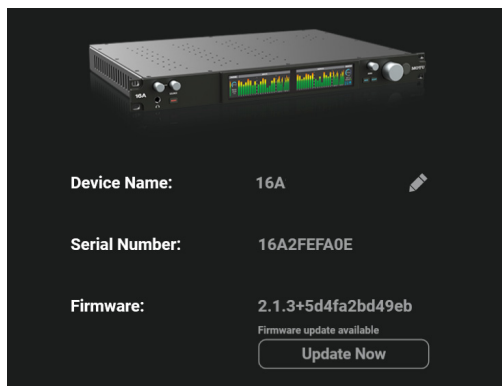

Figure 6-9: Go to the Device tab to see if there is a firmware update available.
- 2 Go to the Device tab and look at the *Firmware* setting (Figure 6-9).
- 3 If your computer has access to the internet, and there is a firmware update available, you'll see the *Update Now* button (Figure 6-9). Click it to update your firmware.